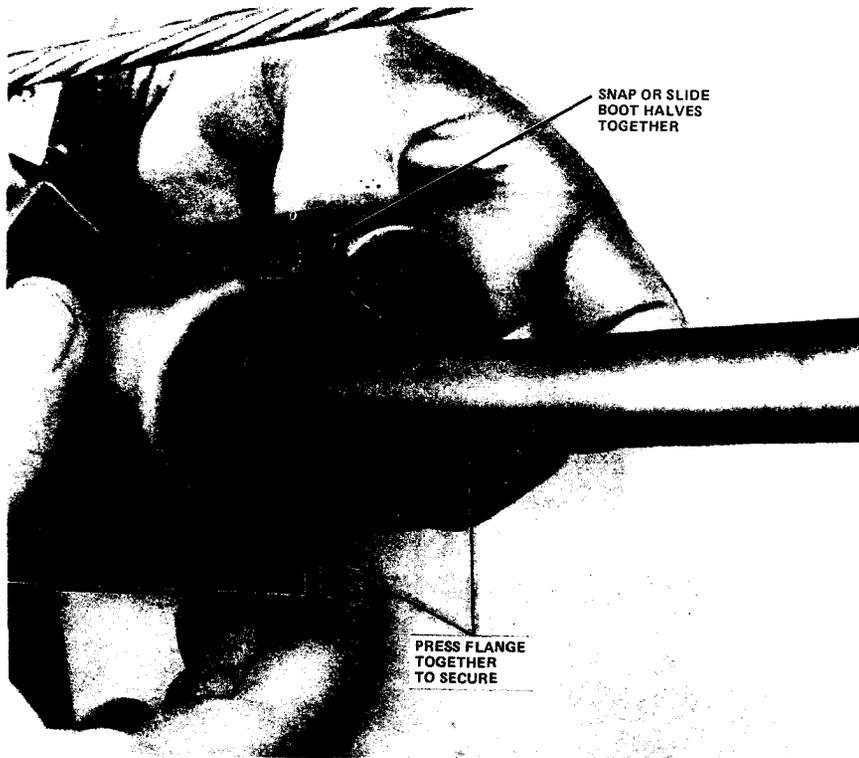

Fig. 35—Placing Hard Boot on Cable
5.03 Snap or slide the two boot halves together and place the boots on the cable (Fig. 35). Press the flange together to engage the snaps and secure the boots in the closed position.